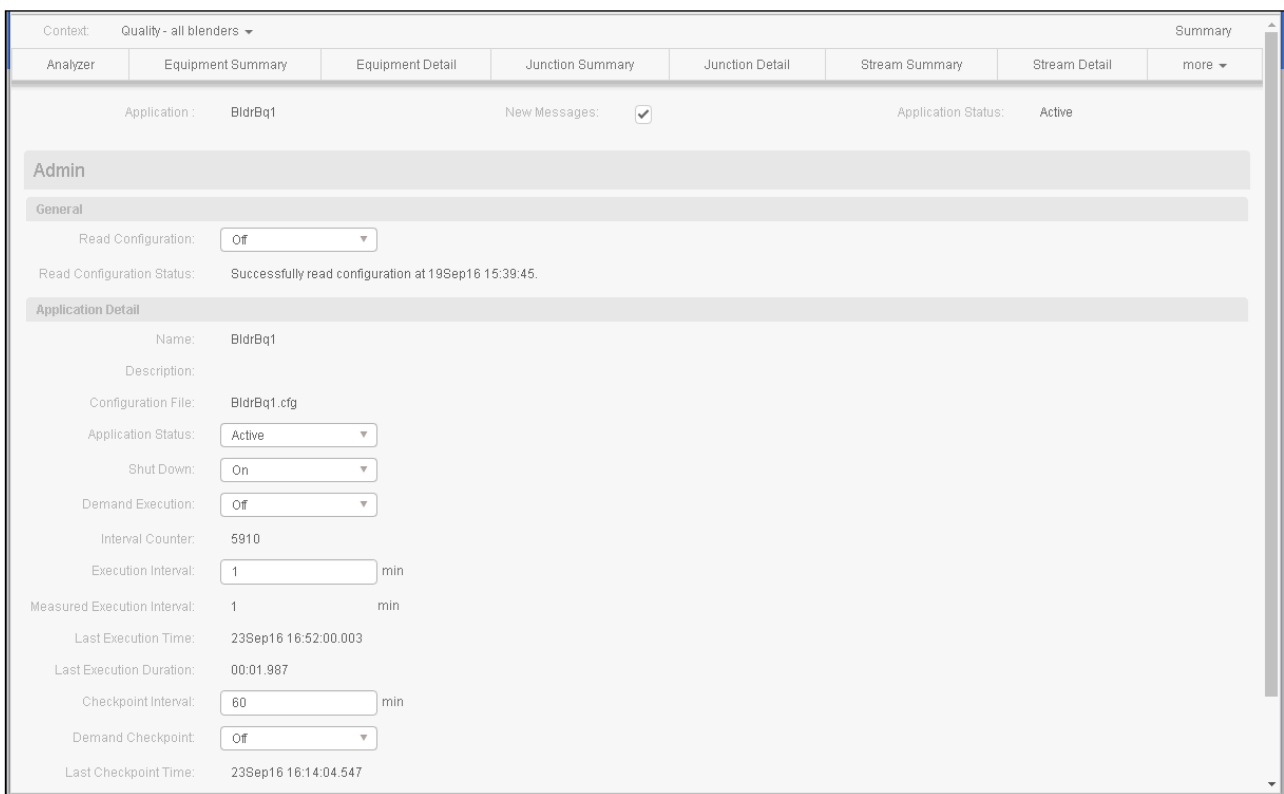

Figure 1 – Blend Quality Operation display
The PBO Blend Quality (BQ) application is monitored from the Blend Quality Operation display, as shown in Figure 1 below. A single Blend Quality Operation display is provided for all of the blenders at a site, and is used: